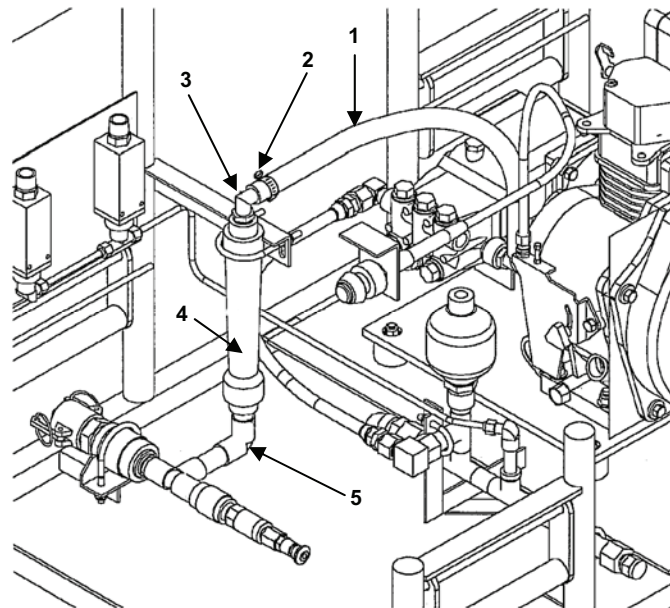

Figure 1. Flow meter on High-Pressure Pump Module.
1. Loosen upper hose clamp (Figure 1, item 2) on feed hose (Figure 1, item 1).
2. Remove feed hose (Figure 1, item 1) from elbow fitting (Figure 1, item 3).
3. Remove elbow fitting (Figure 1, item 3) from flow meter (Figure 1, item 4).
4. Remove flow meter (Figure 1, item 4) from adapter (Figure 1, item 5).